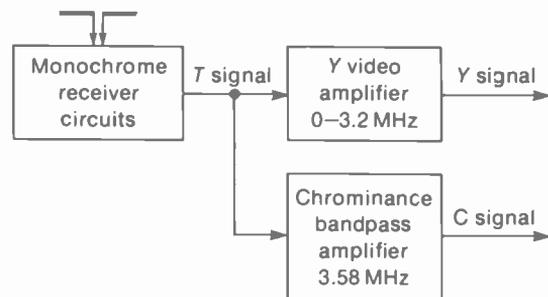

FIGURE 8-10 SEPARATING THE  $Y$  LUMINANCE SIGNAL AND THE 3.58-MHz MODULATED CHROMA SIGNAL AT THE RECEIVER.
**Separating the  $C$  signal.** Starting with the receiving antenna, the modulated picture carrier of the selected channel is amplified in the rf and IF stages to be rectified in the video detector. The detector output is the total colorplexed video signal, including the  $Y$  and  $C$  components. After the video detector, the video circuits divide into two paths, as shown in Fig. 8-10. One path is for the  $Y$  luminance signal, while the other is for the 3.58-MHz  $C$  signal.